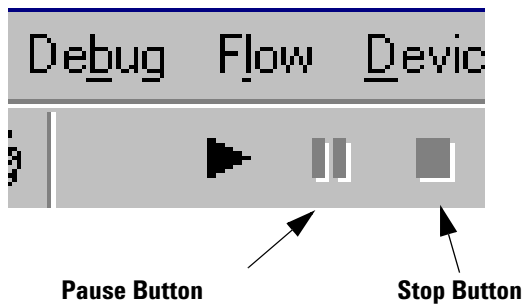

Figure 65 Pause or Stop a Program
- 5 To pause or stop the program, click the **Pause** or **Stop** buttons on the tool bar, shown in Figure 65. (Also located in the Debug menu.)